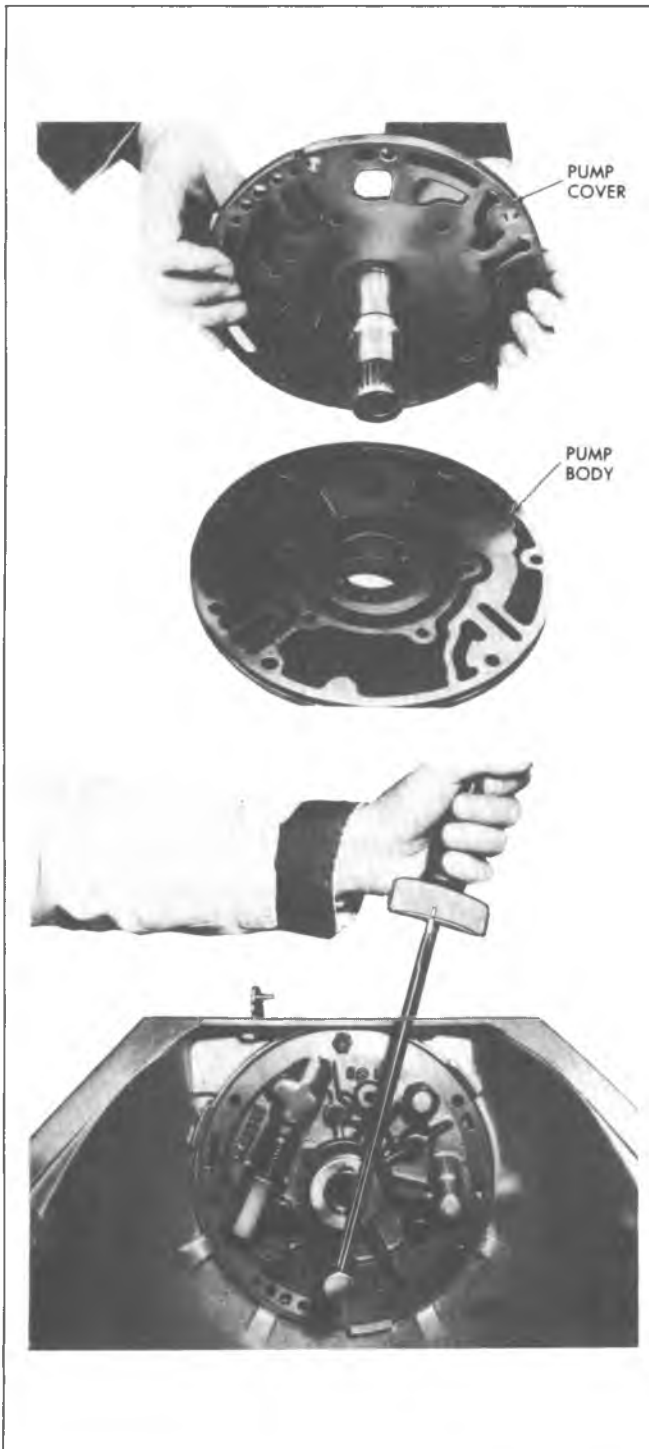

Fig. 7A-78C--Aligning and Installing Pump Cover to Pump Body
3. Install spacer(s) if used, retainer and spring, into pressure regulator bore (Fig. 7A-77C).
9. Install two (2) hook type oil seal rings.
10. Assemble pump cover to pump body with attaching bolts (Fig. 7A-78C).
11. To align the pump body and cover, place the pump assembly, less rubber seal ring, upside down into the pump bore of the case (Fig. 7A-78C).